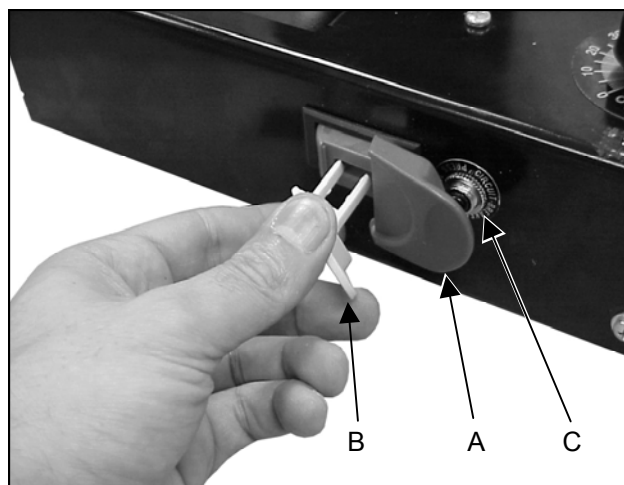

Figure 2
The On/Off Switch (Figure 2, Item A) is located on the front of the sander. To turn the sander on, pull the switch to the on position. To turn the sander off, push the switch to the off position.
2. Pull the key (Figure 2, Item B) out. The switch cannot be turned on with the key removed.
If the breaker is tripped, turn the sander off and reset the circuit breaker by pressing the button (Figure 2, Item C).